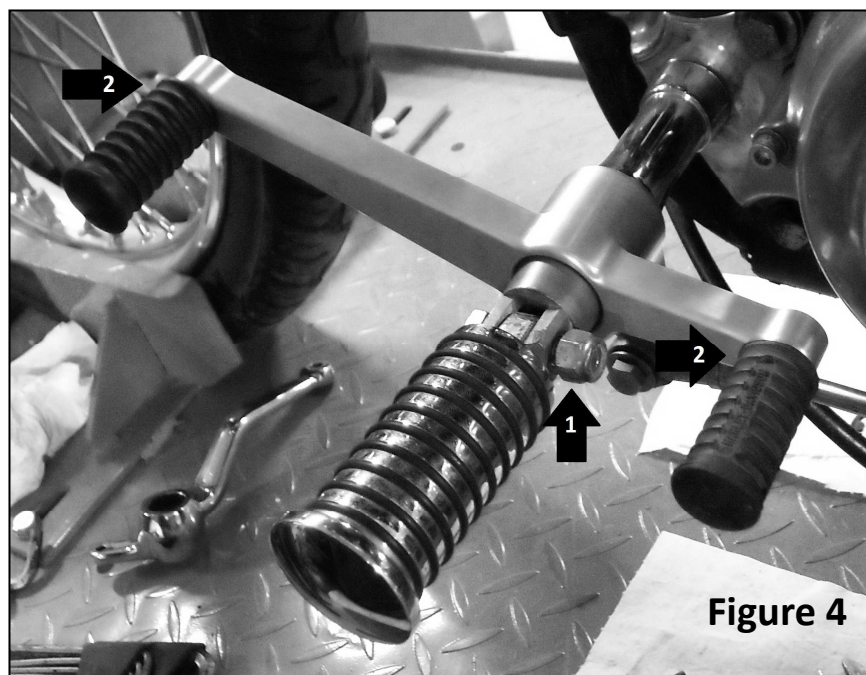

Figure 4
6. Install the foot peg you removed making sure to insert the Spring Washer (Pg. 1 Figure 1 item 21) and tighten the Lock Nut (Figure 4 item 1).
7. Install shifter pegs per manufacturers instructions (Figure 4 item 2).